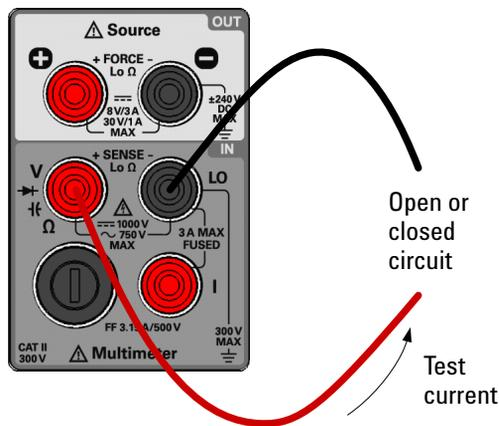

Figure 2-8 Terminal connections for continuity tests
- 2 Connect the red and black test leads to input terminals Ω (red) and **LO** (black) respectively as shown in Figure 2-8.